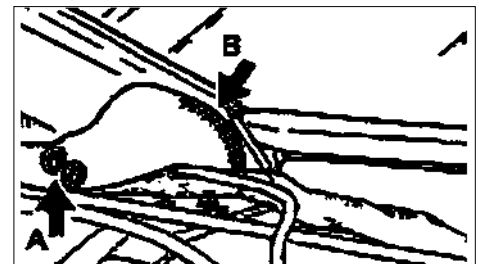

Figure 26
- After the rear wall trim panel is removed, remove the covers for the roof rail trim panels (Figure 26, arrow A).
- Install a foam or felt strip, approximately 50mm x 10mm, 2 to 3mm thick on the top edge of the cover for the roof rail trim panel pointing toward the guide rail (Figure 26, arrow B).